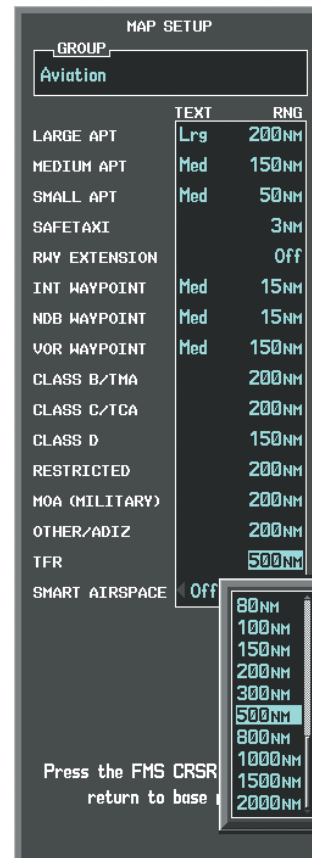

Figure 6-96 Navigation Map Page Setup Menu, Weather Group
- 5) Turn the large **FMS** Knob to scroll to the TFR product range setting (Figure 6-96).